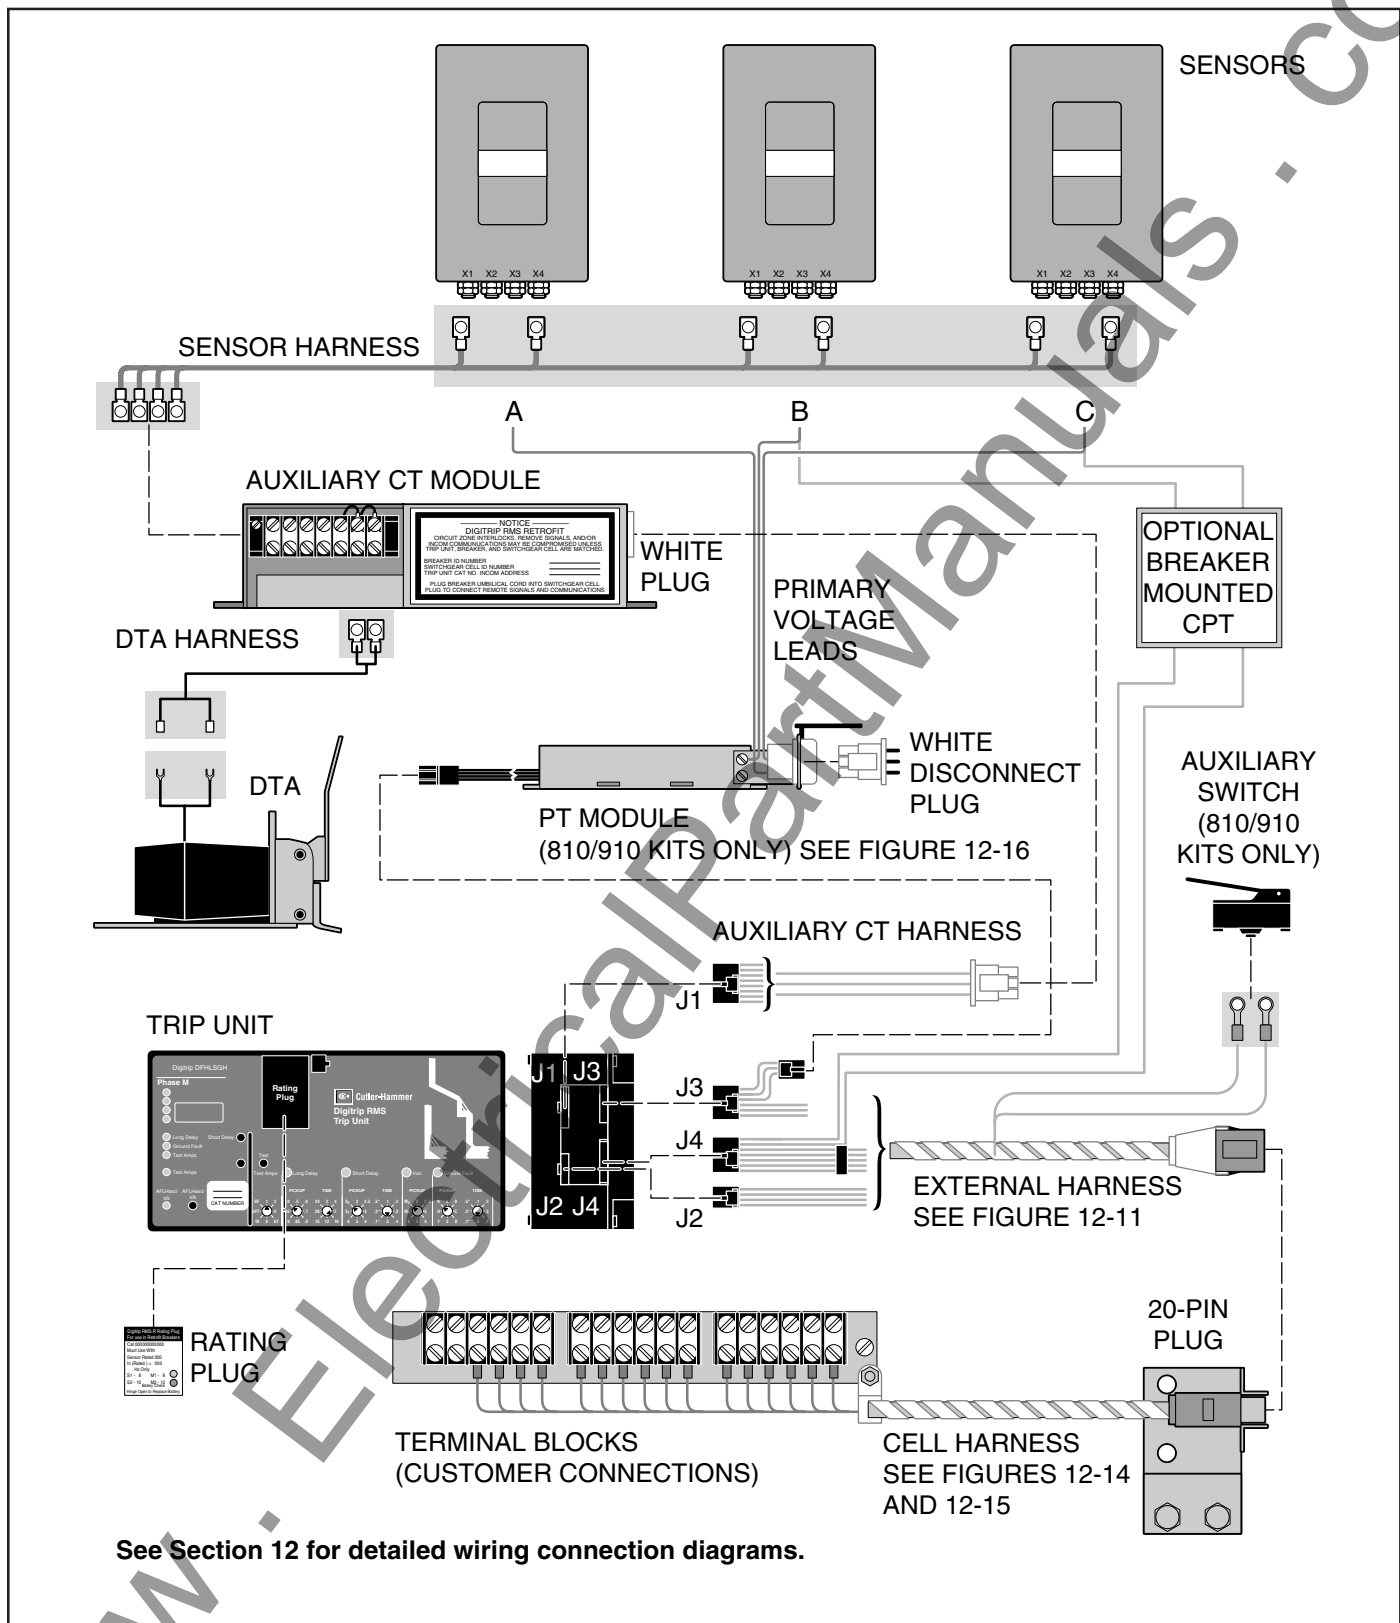

Fig. 7-1 Digitrip RMS 810 &amp; 910 Wiring
A 120 VAC control power source is required to power up the Power Relay Module (ATR) remote signals, the local mode of trip indicators, PowerNet Communications, and the Trip Unit Alphanumeric Digital Display. A Potential Transformer (PT) Module provides the distribution system voltage input to the Trip Unit. The PT Module is provided with a disconnect plug which is to be disconnected in the event of Breaker dielectric testing. Figures 7-1, 12-10, and 12-14 provide the Retrofit Kit wiring connections on the Breaker and in the Switchgear Cell. All Retrofit Kit components are mounted on the Breaker, except the Cell Harness Assembly.
\*The Zone Interlock and ATR Relay Contacts are available on 810 & 910 Kits with the normal Cell Harness. A popular option is to specify the Breaker Mounted CPT with a simplified Cell Harness. In this case, the Zone Interlock and ATR contacts are omitted and only the INCOMM connections are required in the Cell (Figure 7-1).